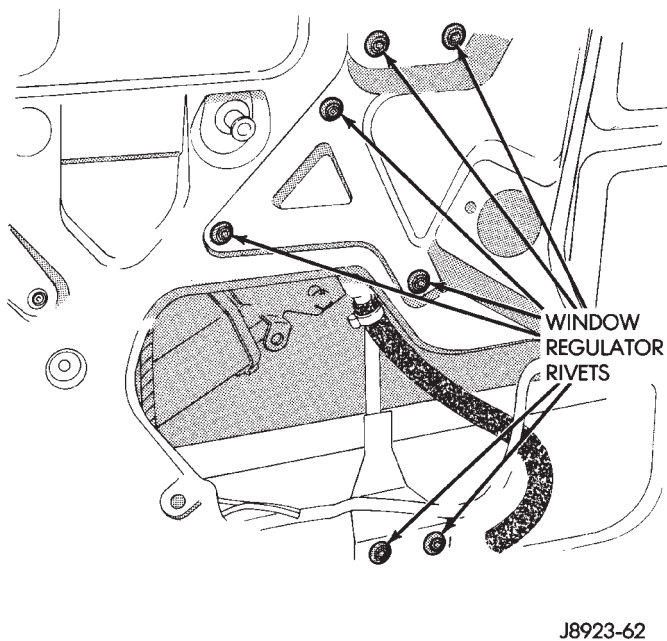

Fig. 56 Rear Door Window Regulator Rivets
(3) Remove the regulator rivets by driving out the rivet center with a punch. Next, drill out the rivet body with a 1/4 inch diameter drill bit (Fig. 56).